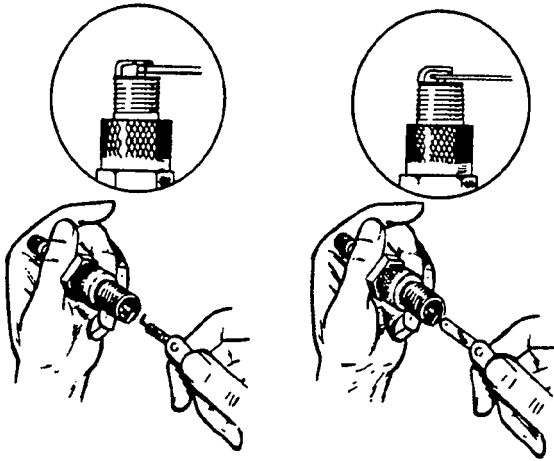

FIGURE 53. SPARK PLUG ADJUSTMENT
3. Adjust gap to 0.035 inch. Use a round wire gauge for more accurate measurement (Figure 53).